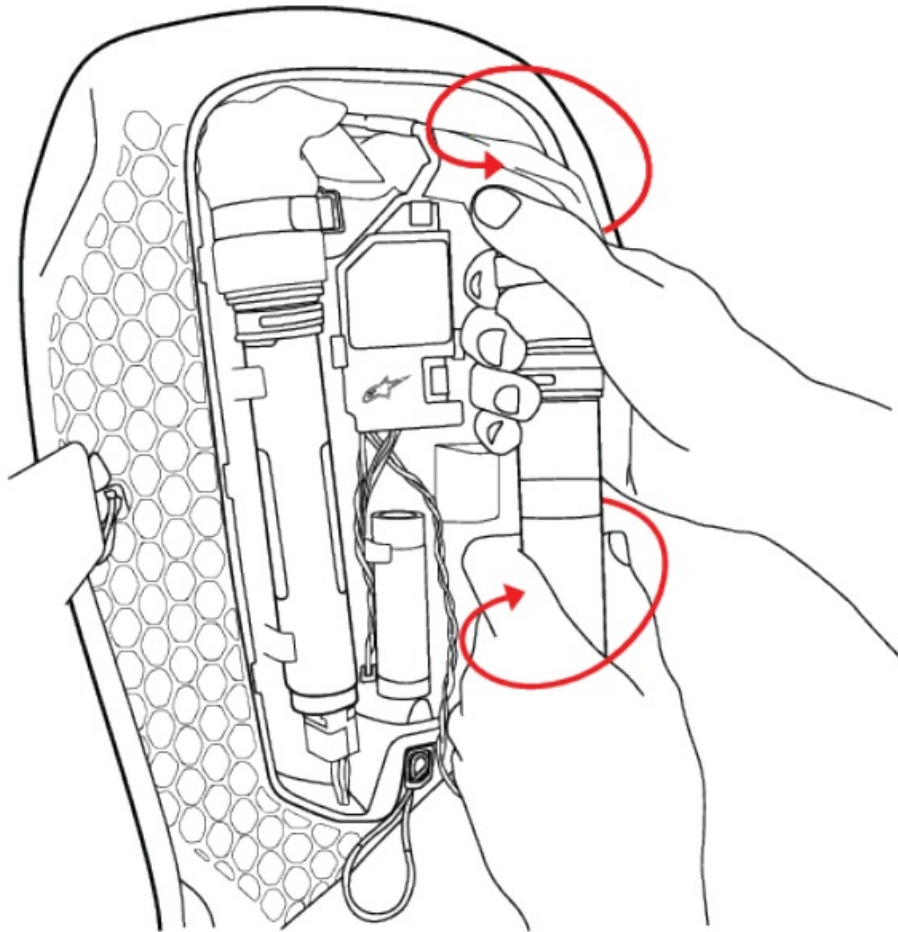

Figure 8: How to remove the Gas Inflator (1);.
After disconnecting the Squib Connector (6), proceed to remove the Gas Inflator (1) from the Gas Inflator Housing (5). Next, unscrew the Gas Inflator (1) in the counterclockwise direction, as shown in Figure 8, and separate it from the Airbag (8).